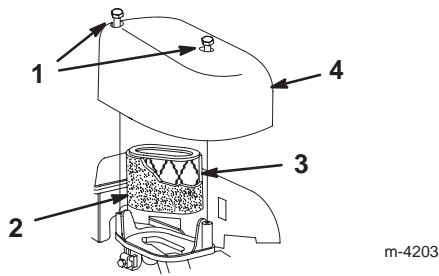

Figure 14
3. Remove the screws that secure the air filter cover (Fig. 14).
- Remove the cover and clean it thoroughly (Fig. 14).
- Wash the pre-cleaner with a mild detergent and water, then blot it dry (Fig. 14).
- Remove the paper air filter and discard it (Fig. 14).
- Insert the new paper air filter into the foam pre-cleaner (Fig. 14).
- Install the new air filter (Fig. 14).
- Install the cover and secure it (Fig. 14).